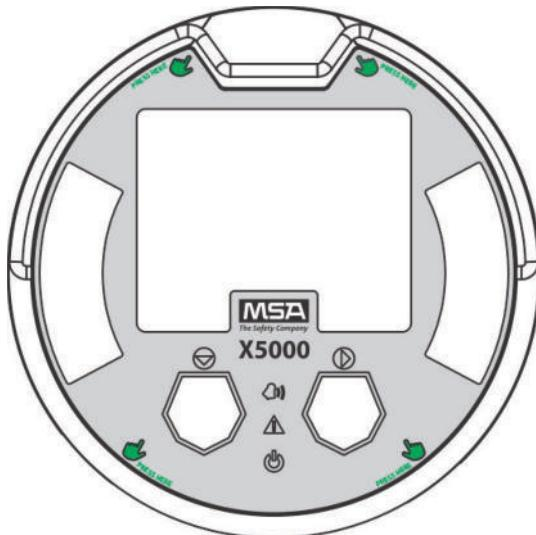

Fig. 22 Highlighted Areas Show Where to Press when Replacing a Board Stack
(12) Replace the board stack by aligning the four metal standoffs with the four holes inside the ULTIMA X5000 housing. Push firmly on the board stack where indicated (see Fig 22).